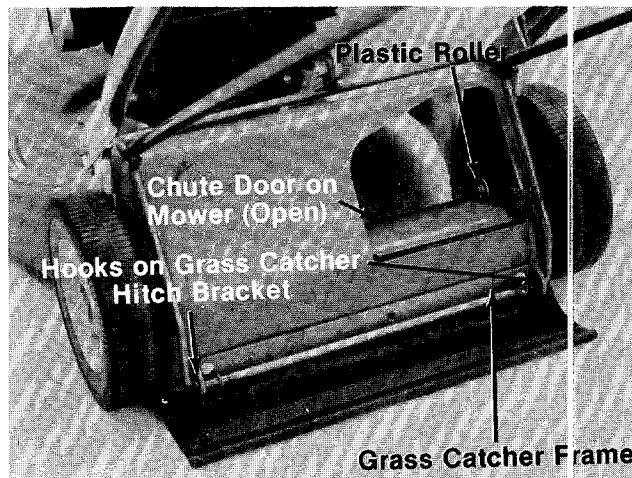

FIGURE 14.
1. Attach the grass catcher frame to grass catcher hitch bracket on rear of the mower by hooking grass catcher into hooks on grass catcher hitch bracket. See figure 14.
2. Lift the rear of grass catcher up. The roller on the grass catcher will push the chute door on the mower open. See figure 14.
Figure 14 is shown with the chute door open for photo clarity only.